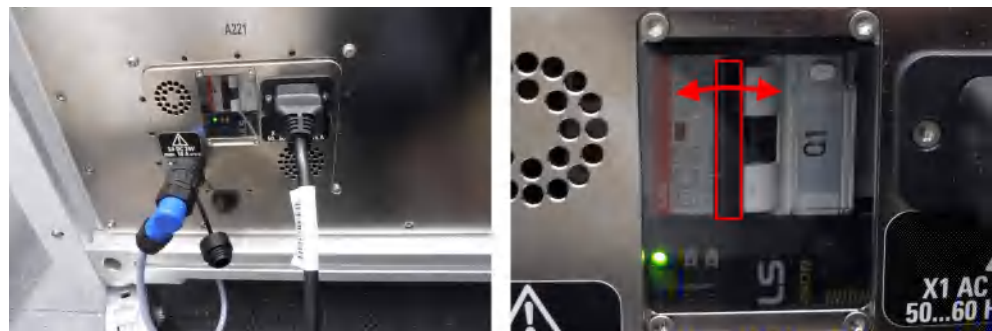

Figure 9-1: Power supply module at feedthrough [A221] (picture on the right: switch lever of the circuit breaker highlighted red)
3. If the chamber still has no power, check its circuit breaker (Figure 9-1).